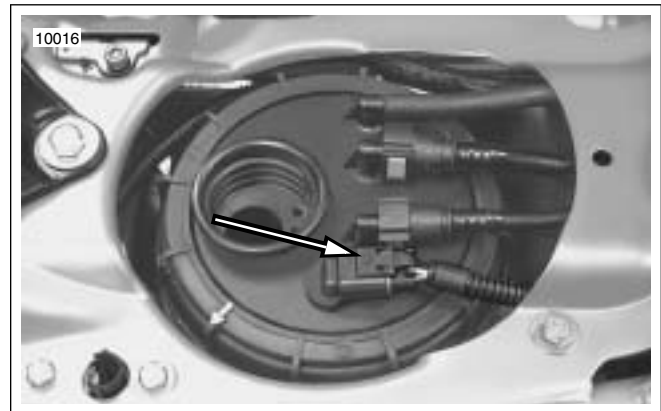

Figure 8-101. Fuel Pump Connector [141]
1. See Figure 8-101. Disconnect fuel pump connector [141] from top of fuel tank.